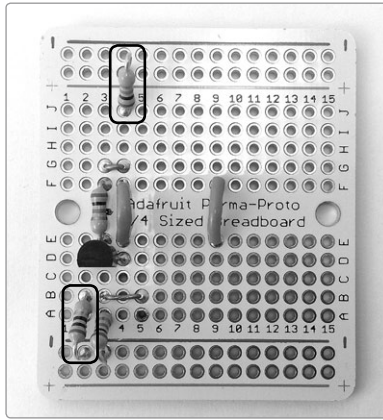

FIGURE 14-12: *The preamp ground and power resistors are installed.*
Step 10 Add the last two resistors to the preamp portion of the circuit. These are the ground and power resistors. Run the 10 ohm ground resistor (brown-black-black) from 2B to the second hole from the left in the common ground row directly below the bottom blue line. The 10k ohm (brown-black-orange) resistor runs from 4J to the row just above the red + line at the top—that is, the *power rail* (see Figure 14-12). Solder these now.